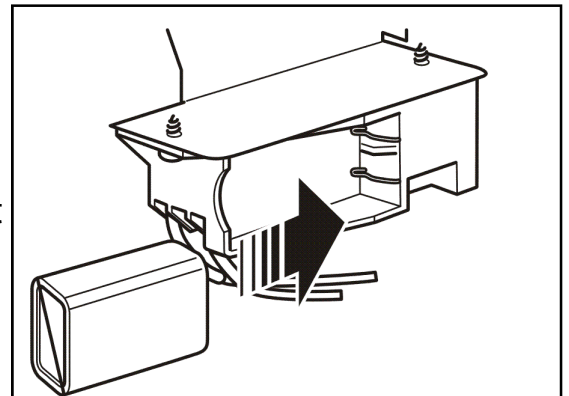

Figure 4. Fitting the battery
2. Fit the replacement battery to the igniter block (See figure 4). The positive (+ ve) and negative (- ve) terminal positions are clearly marked on the igniter block.